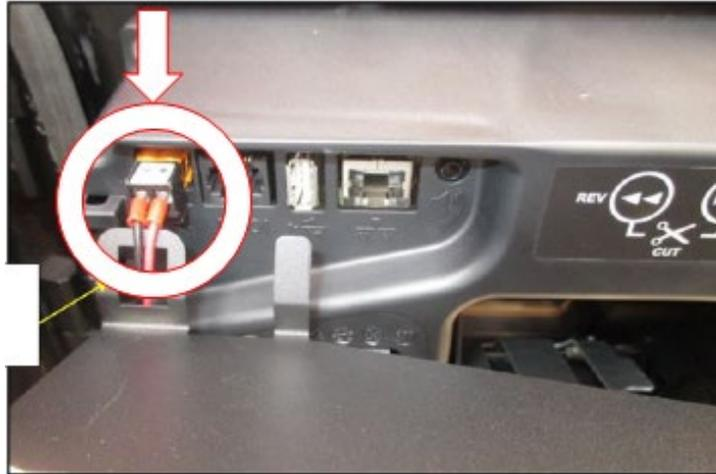

Figure 65
- 13) Disconnect the DC wiring assembly from port labeled "VDC" on the back of the Tokheim Premier B Door EMV Sub-Assembly. See Figure 65.